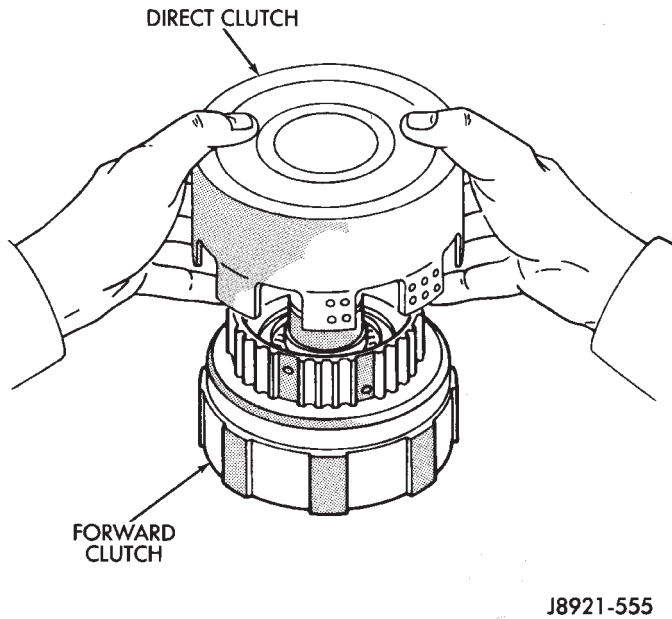

Fig. 1 Separate Direct Clutch From Forward Clutch
(1) Remove direct clutch from forward clutch (Fig. 1).